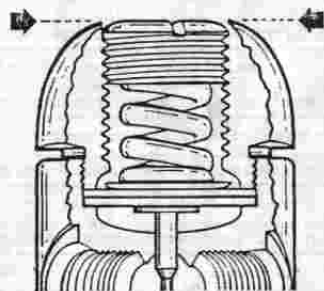
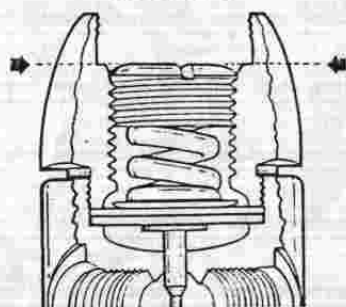

FIGURE 5
FIGURE 6
9. Next, using a large flat-bladed screwdriver, turn the adjustment screw counterclockwise until it is flush with the end of the spring retainer. (See Figure 5). For the Conshelf S.E.S., the adjustment screw should be turned clockwise until it is flush with the secondary diaphragm supporting shoulder (See Figure 6). For the Conshelf S.E.S.: Remember that a new supply of silicone fluid will be poured into the spring retainer (Item 10) after the intermediate pressure adjustment is completed. After the procedure is finished, a new secondary diaphragm (Item 48) and the secondary-diaphragm retaining ring (Item 49) will be reinstalled. Refer to Subsection IX on First-Stage Adjustment if necessary.